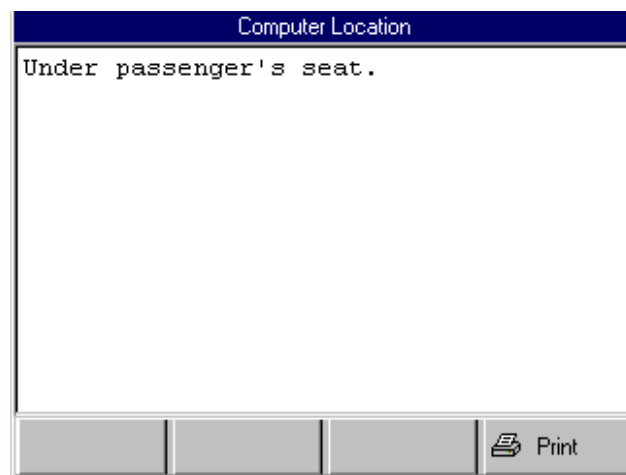

Figure 7.11: Computer Location Screen
- Select **Computer Location** and press the **ENTER** key to view a description of where the vehicle's electronic control unit (ECU) is located. This displays the Connector Location screen (see figure 7.11).